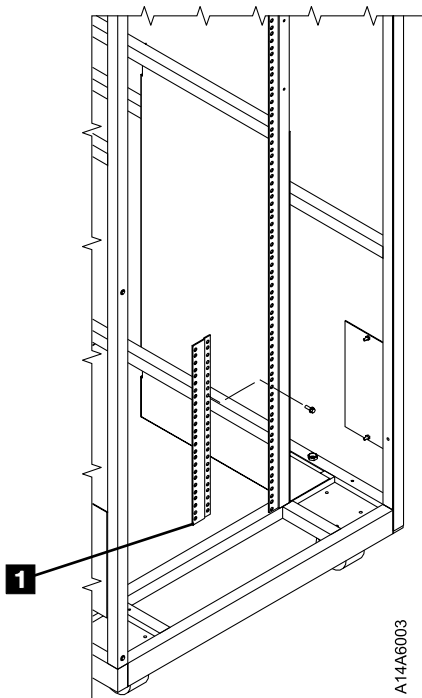

Figure 32. A14 Frame A60 Controller Support Spacer
In the following steps, refer to Figure 32 on page 212 and Figure 33 on page 213.
- \_\_\_ Step 15. Install the support spacer on the right side of the frame P/N 09L4876, see Figure 32 on page 212, **1** in holes 3 and 19 from the bottom.